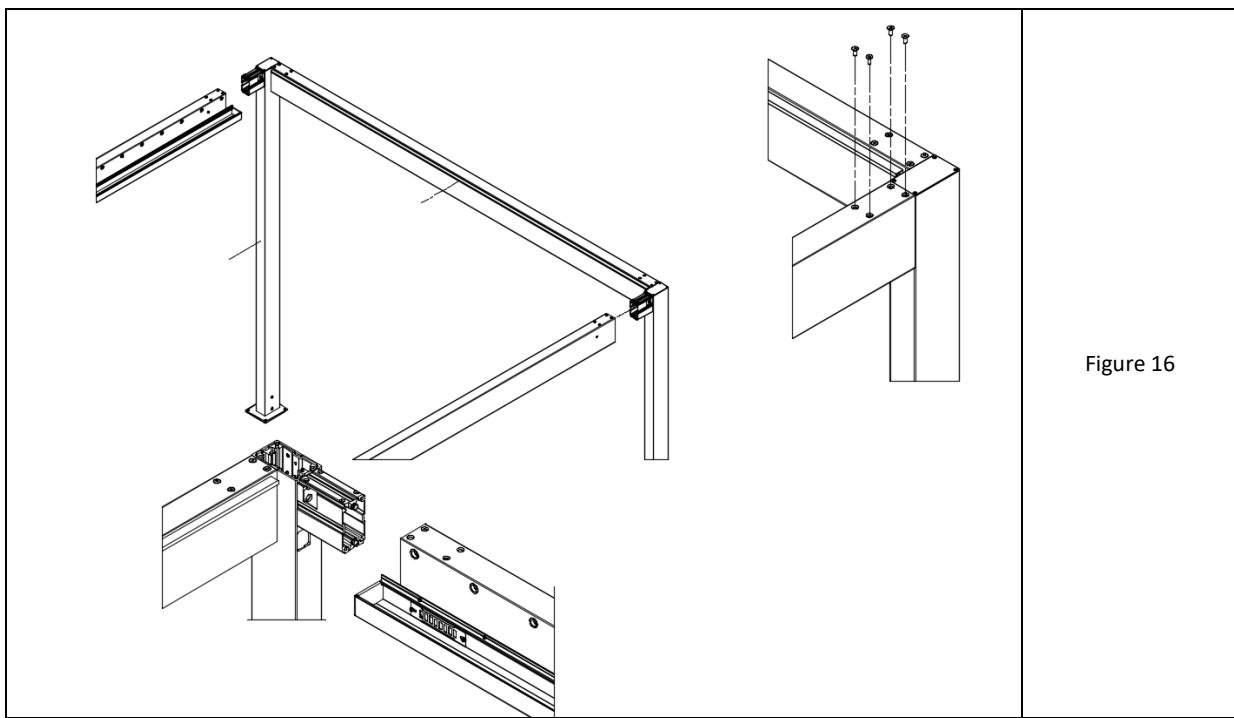

Figure 16
6. Screw the ends of the lengthwise beams inserted into the bones of the cross-frame from the side of the upper chamber of the beam using M8 x 20 conical screws with an Allen socket, according to fig. 16.
**Note:** posts with the outflow have a square hole under the bone (fig. 16 bottom). When the lengthwise beams are being inserted, rectangular drain profiles protrude from the beams at its ends. When embedding, they should be carefully inserted into the post profile.